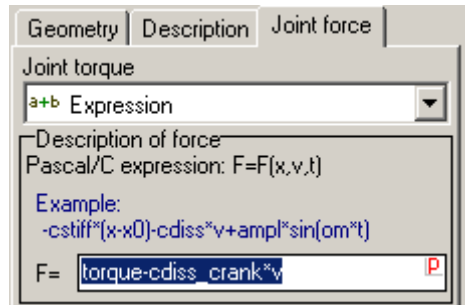

Figure 2.20.
3. Select the Joint force tab, set Joint torque to Expression and in the field Description of force set  $F = \text{torque} - \text{cdiss\_crank} * v$ , see Fig. 2.20. Press **Enter**. The window **Initialization of values** for new identifiers appears. Set identifiers value as follows: **torque = 100**, **cdiss\_crank = 10**.